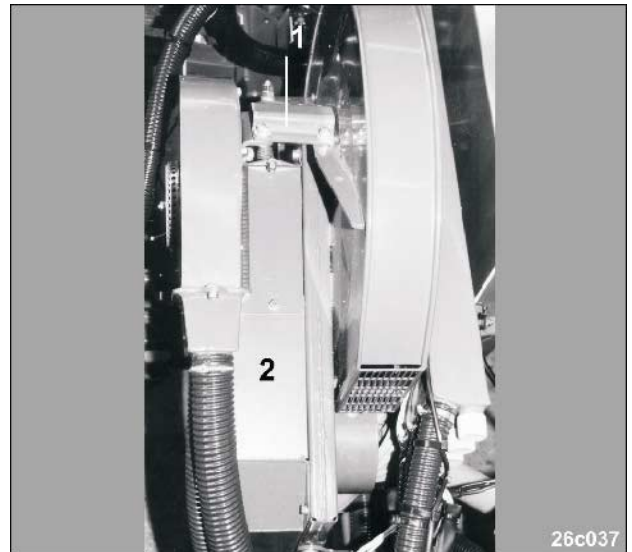

Fig. 56
- Slacken the 4 bolts in the fixing plate (Fig. 56/1) of the pressure air fan and remove the fixing plate.
- Slacken the bolt connections and remove the 3-sectioned guard (Fig. 56/2)
- Slacken bolts (Fig. 56/2) and exchange V-belt pulley.